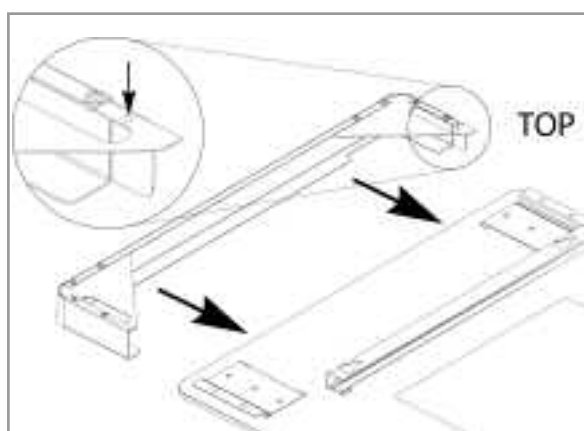

Figure 12
2. Slide on the side pieces ensuring that the grille fixing holes (shown) are aligned towards the top of the glass fascia (as shown in figure 12).